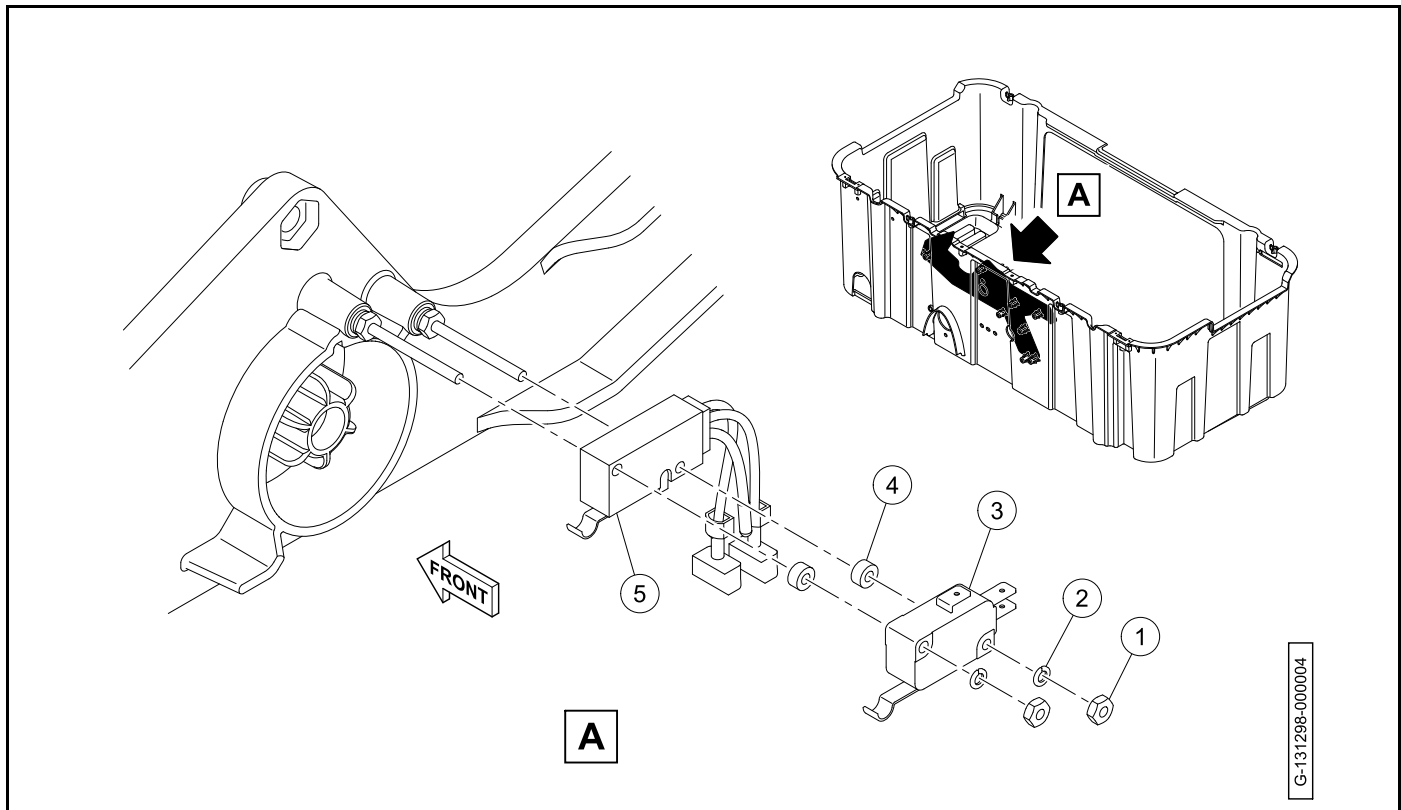

Figure 19-25 Multi-purpose Buzzer Limit Switch
3. Remove the nuts (1) and washers (2) (**Figure 19-25, Page 19-24**).
4. Remove the neutral lockout limit switch (3) and washers (4).
5. Remove the multi-purpose buzzer limit switch (5).
1. Install the multi-purpose buzzer limit switch (5) on the two bolts (Figure 19-25, Page 19-24).
2. Install washers (4) and neutral lockout limit switch (3).